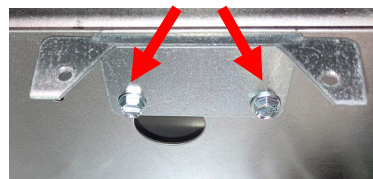

Figure 16
15. Remove the two (2) screws attaching the speaker bracket to the component box (see Figure 16).